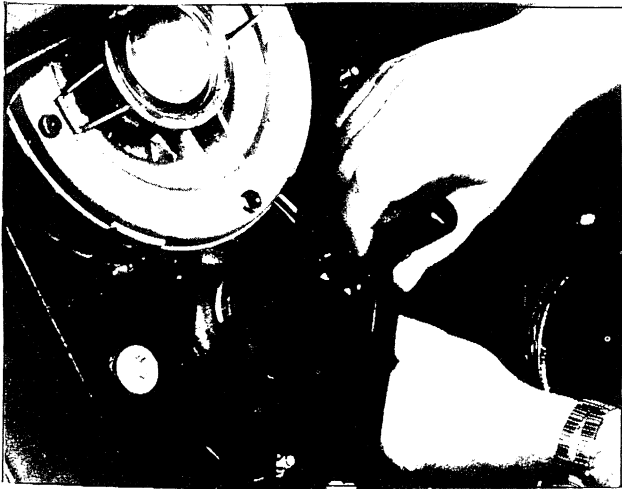

Figure 124C
11. Insert handle through hole in the suspension bar and into tool head. Drive seal into place. The tool is so designed that it will bottom on the bearing frame when the seal is in the proper position, *Figure 124C*.